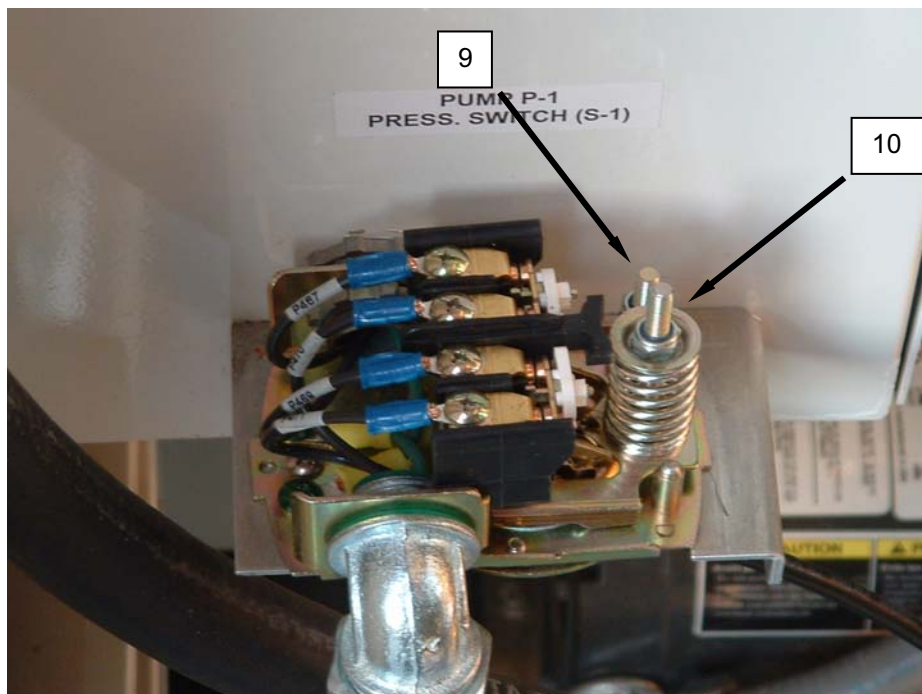

Figure 3. Adjust the Pressure Switch.
2. Adjust the switch cut-in (**Figure 3, Item 9**) to 30 psi and cut-out (**Figure 3, Item 10**) to 60 psi. Have an assistant monitor system pressure at the PLC.